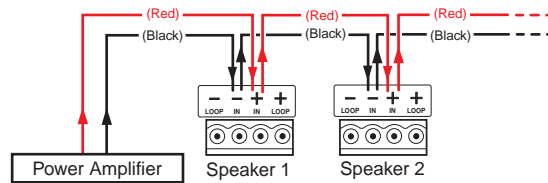

Figure 13. Wiring Multiple Speakers in Parallel
- **Wiring Multiple Speakers in Parallel:** Connect the wires to the captive screw connectors of the speakers, as shown in figure 13. Be sure to tighten the screws.